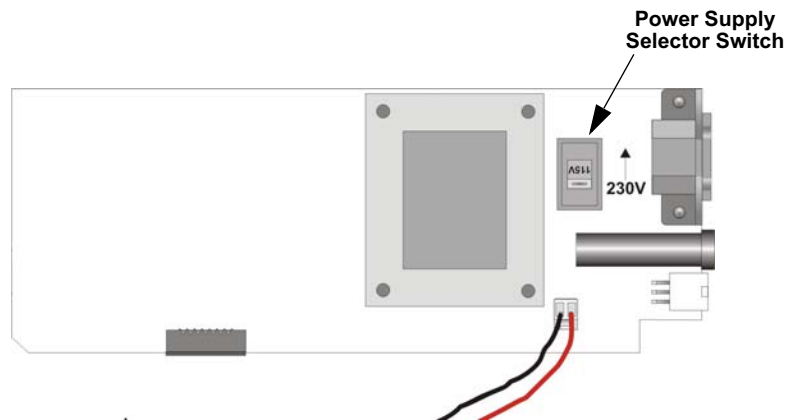
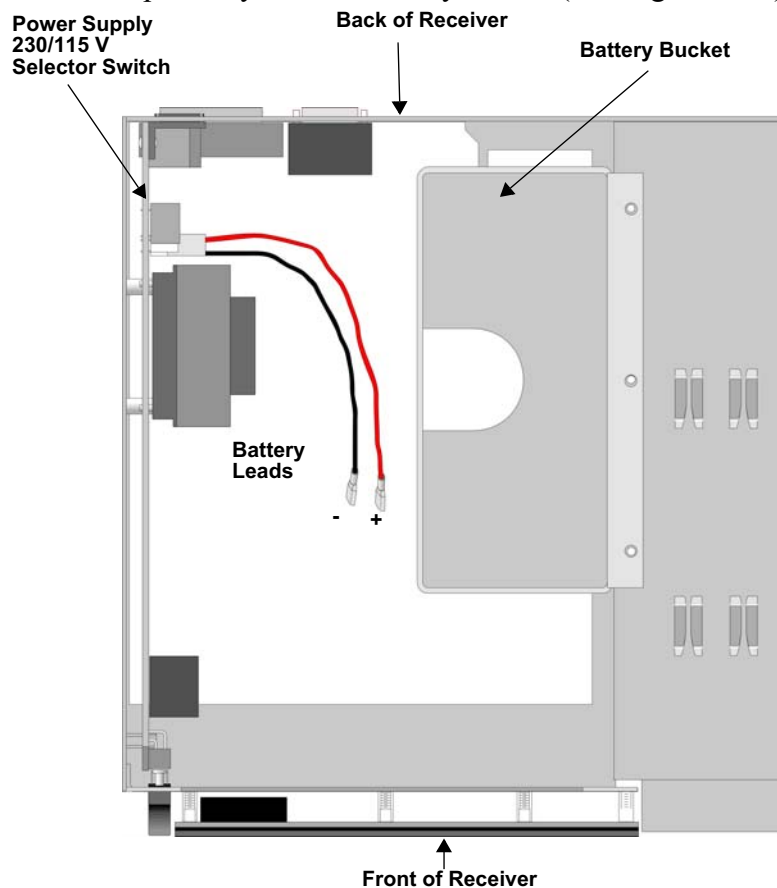

Figure 3-10 Side View of Power Supply Assembly
Figure 3-12 Top View of Receiver
4. Switch the power supply select switch to the up position. The switch will show 230VAC. (See Figure 3-10 and Figure 3-12.)